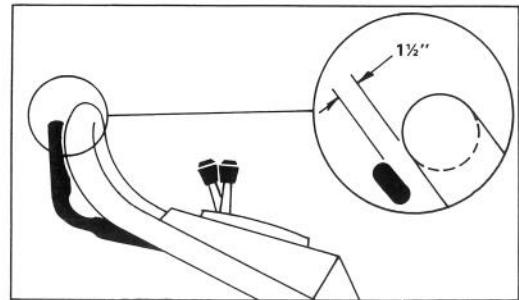

Figure 20
3. Lift control bar until some resistance is felt. Control bar should be $1\frac{1}{2}$ " from handle when properly adjusted (Fig. 20).